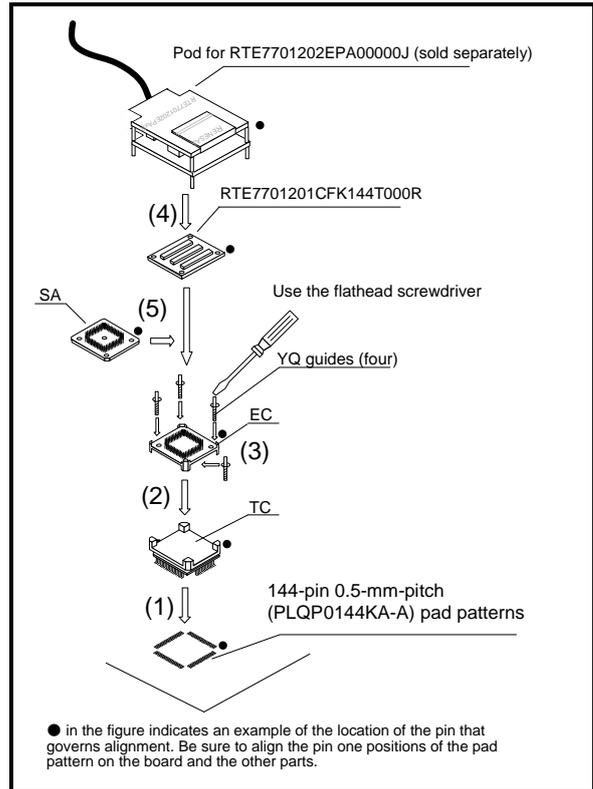

Figure 3 Procedure for Connecting the RTE7701201CFK144T000R
5. Connection Procedure (See Figure 3)